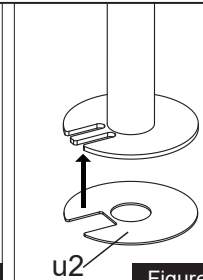

Figure 8
3. Attach Soft Pad (u2) to the Grommet Base Plate (i), see Figure 8.